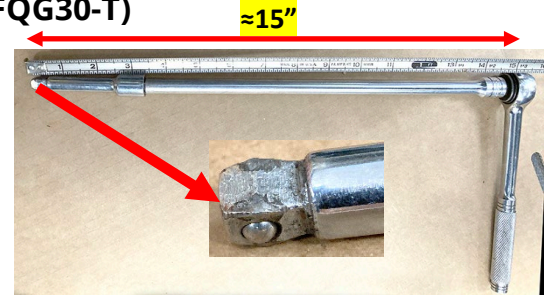

Figure 1
**NOTE:** Prior to starting, you **MUST HAVE** a 3/8" square tapered wobble extension (see Figure 1), with 15" of extensions, to perform this task. A universal joint **WILL NOT** work.